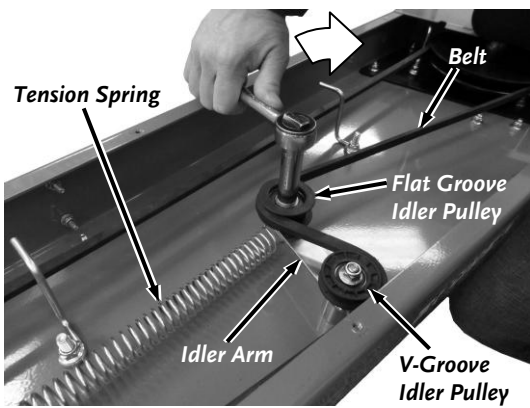

Figure 39
5. Position the 9/16" Deep Socket and Ratchet onto the Bolt of the Flat Groove Idler Pulley. The Ratchet Handle and Idler Arm must be aligned for the pivoting of the Arm to work properly (**Figure 39**).
10. Rotate the Idler Arm towards the Gearbox Pulley with the Ratchet and 9/16" Deep Socket (Ratchet Handle in line with the Idler Arm) and position the Belt around the Flat Groove Pulley and then around the V-Groove Pulley (**Figure 39**).